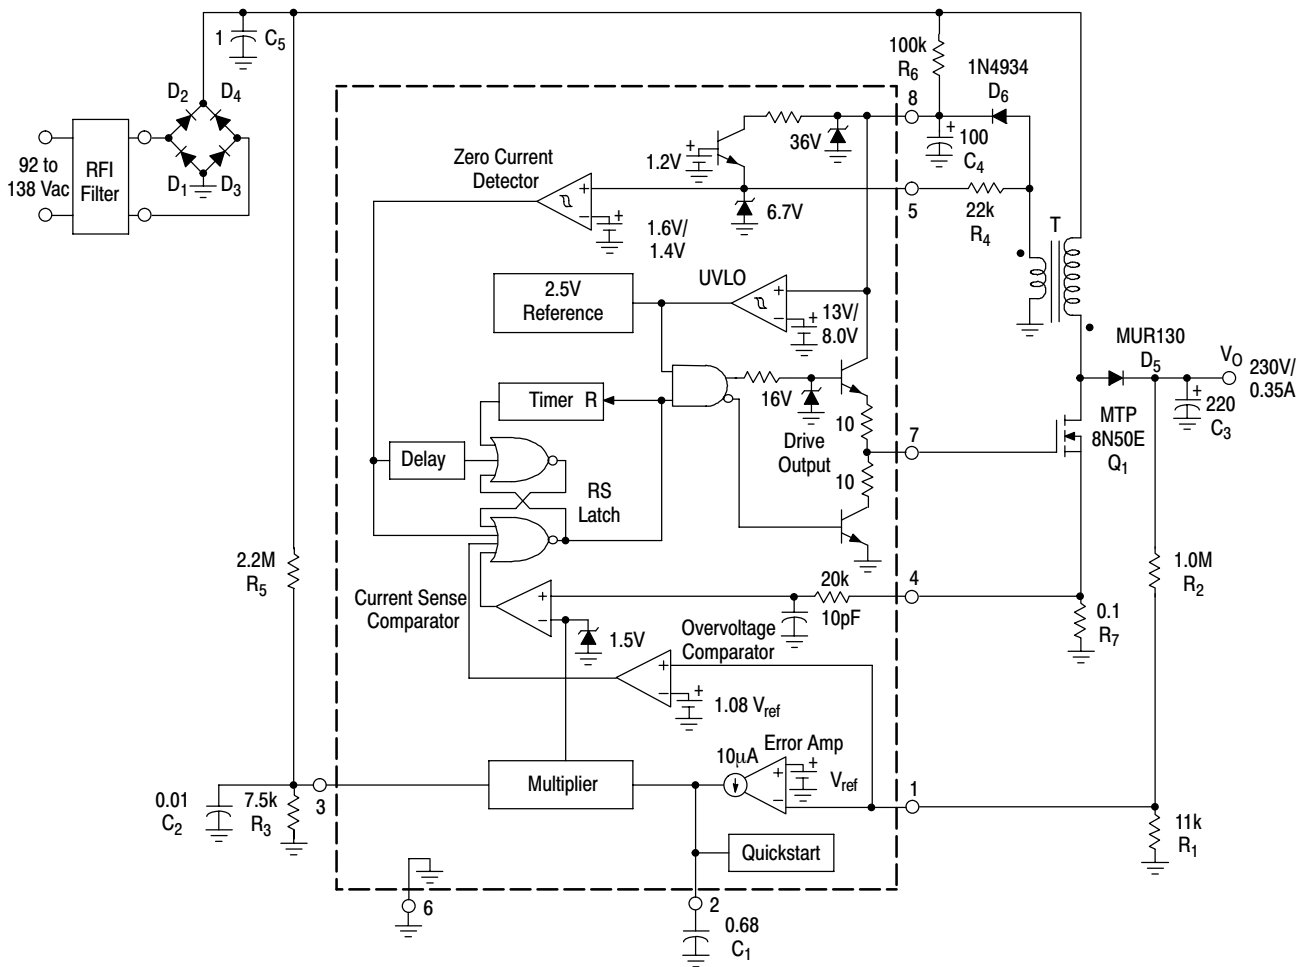
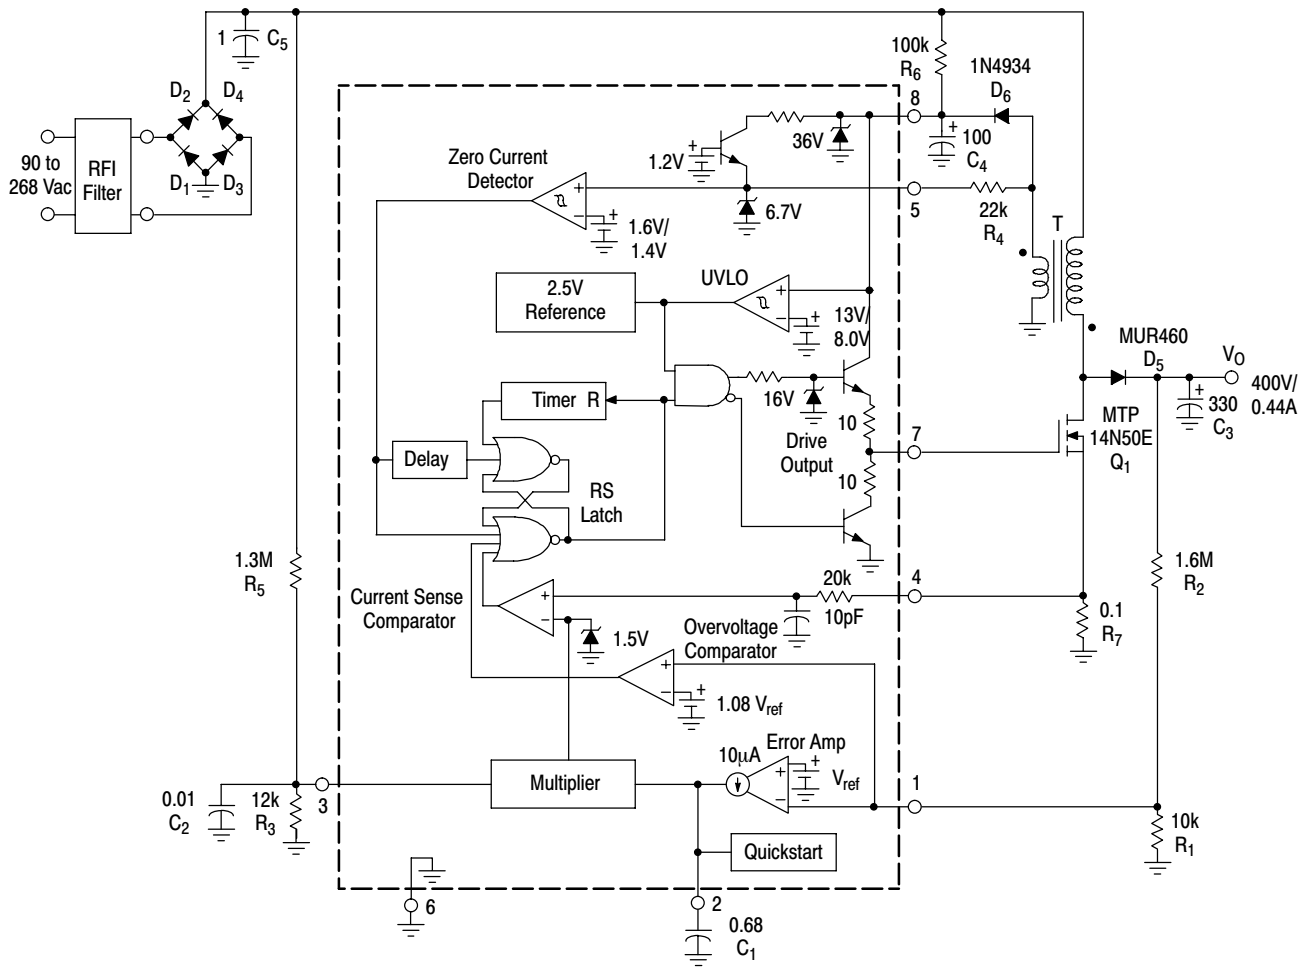
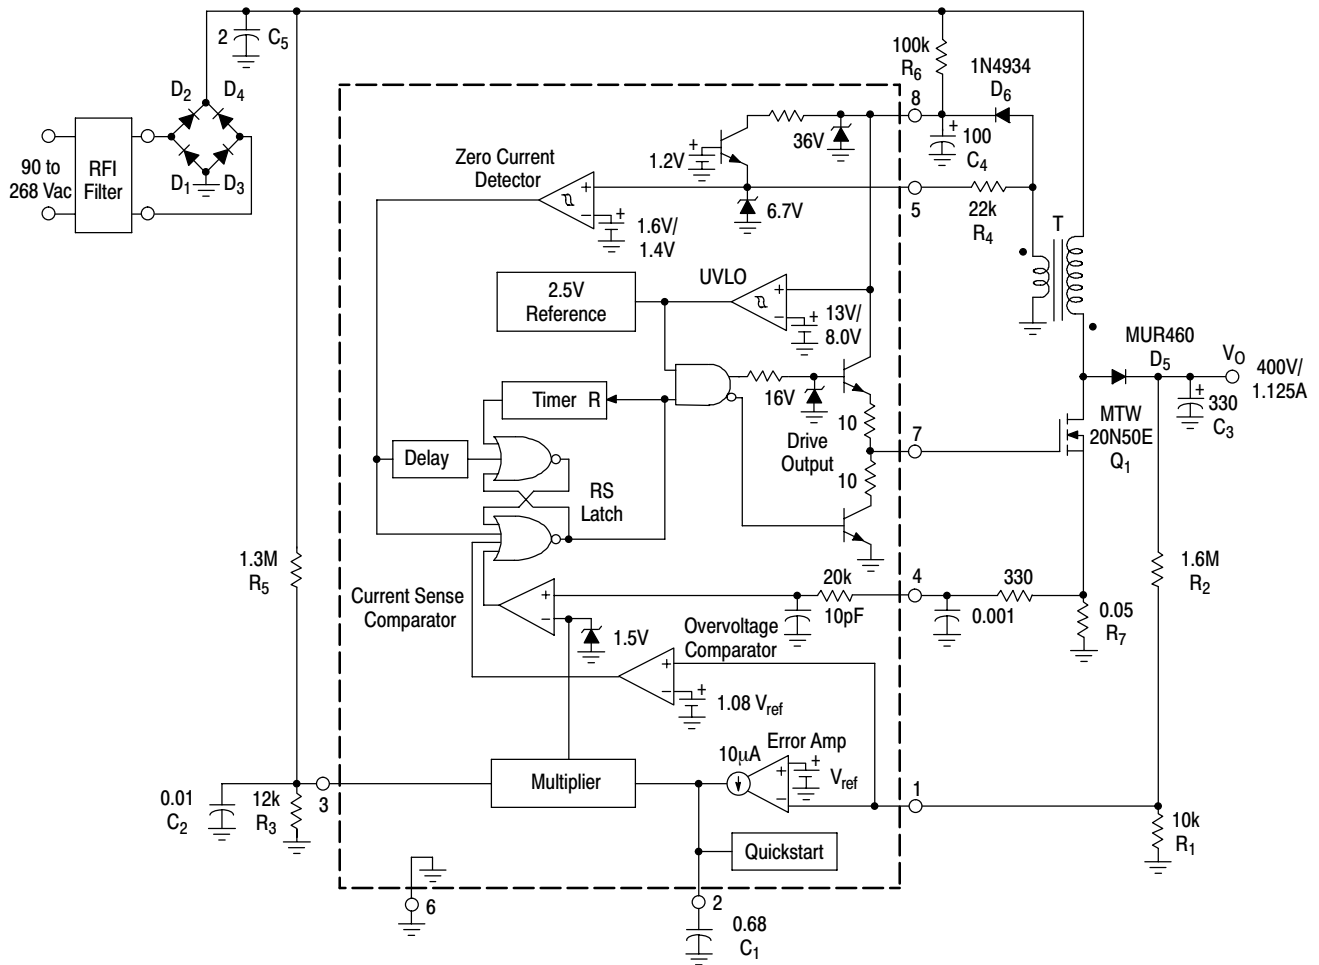
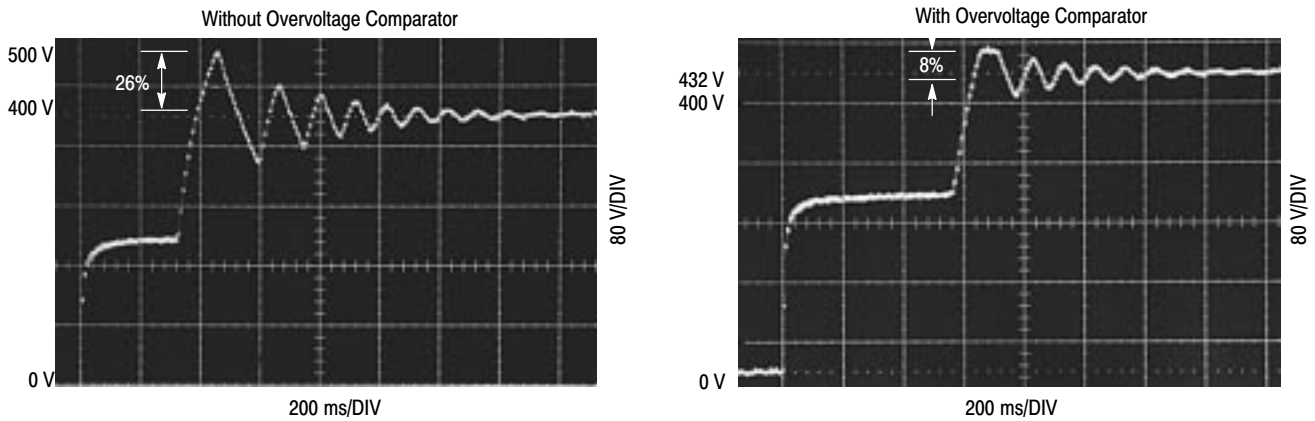

Figure 20. 80 W Power Factor Controller
Figure 21. 175 W Universal Input Power Factor Controller
Figure 22. 450 W Universal Input Power Factor Controller
Figure 24. Output Voltage Startup Overshoot (Figure 20 Circuit)
An internal RC filter has been included to attenuate any high frequency noise that may be present on the current waveform. This filter helps reduce the ac line current distortion especially near the zero crossings. With the component values shown in Figure 20, the Current Sense Comparator threshold, at the peak of the haversine varies from 1.1 V at 90 Vac to 100 mV at 268 Vac. The Current Sense Input to Drive Output turn-off propagation delay is typically less than 200 ns.
0.998 at nominal line. Figures 20 and 21 are universal input preconverter examples that operate over a continuous input voltage range of 90 Vac to 268 Vac. Figure 20 provides an output power of 175 W (400 V at 440 mA) while Figure 21 provides 450 W (400 V at 1.125 A). Both circuits have an observed worst-case power factor of approximately 0.989. The input current and voltage waveforms of Figure 20 are shown in Figure 22 with operation at 115 Vac and 230 Vac. The data for each of the applications was generated with the test set-up shown in Figure 24.
This data was taken with the test set-up shown in Figure 24.
An RFI filter is required for best performance when connecting the preconverter directly to the ac line. The filter attenuates the level of high frequency switching that appears on the ac line current waveform. Figures 19 and 20 work well with commercially available two stage filters such as the Delta Electronics 03DPCG5. Shown above is a single stage test filter that can easily be constructed with four ac line rated capacitors and a common-mode transformer. Coilcraft CMT3-28-2 was used to test Figures 19 and 20. It has a minimum inductance of 28 mH and a maximum current rating of 2.0 A. Coilcraft CMT4-17-9 was used to test Figure 21. It has a minimum inductance of 17 mH and a maximum current rating of 9.0 A. Circuit conversion efficiency η (%) was calculated without the power loss of the RFI filter.